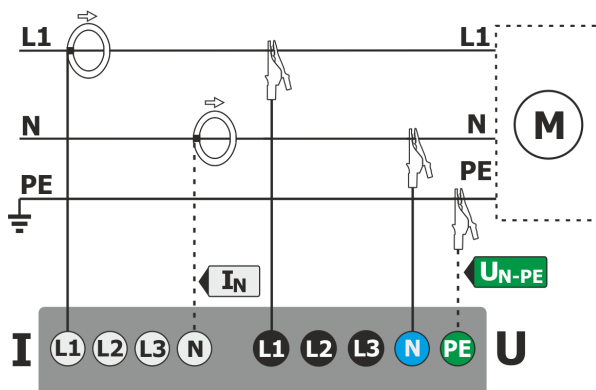

Fig. 38. Wiring diagram – single phase.
- single-phase (Fig. 38)
Step 2: Connect to the tested network. Connect the analyzer to the tested mains, as shown in Fig. 38. Connect voltage inputs L1, N. Clamps do not need to be connected, because the current measurement is not required. Connect an external power supply to the analyzer to avoid supplying from the battery pack that may be interrupted due to the discharged battery.